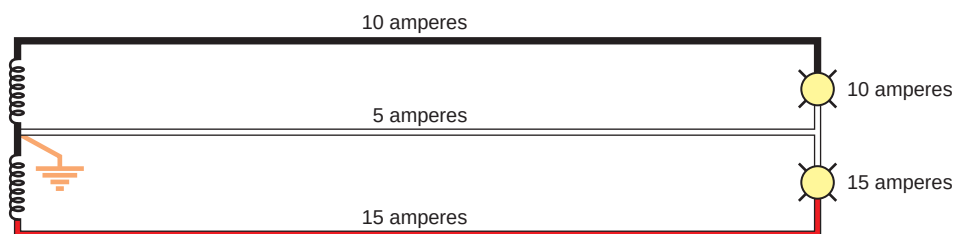

FIGURE 4-9 Neutral current in single-phase, 3-wire circuit. (Delmar/Cengage Learning)
- You are NOT required to count the neutral conductor of a 3-wire, single-phase circuit if the neutral conductor carries only the unbalanced current. See Figure 4-9 and *NEC 310.15(B)(5)(a)*.